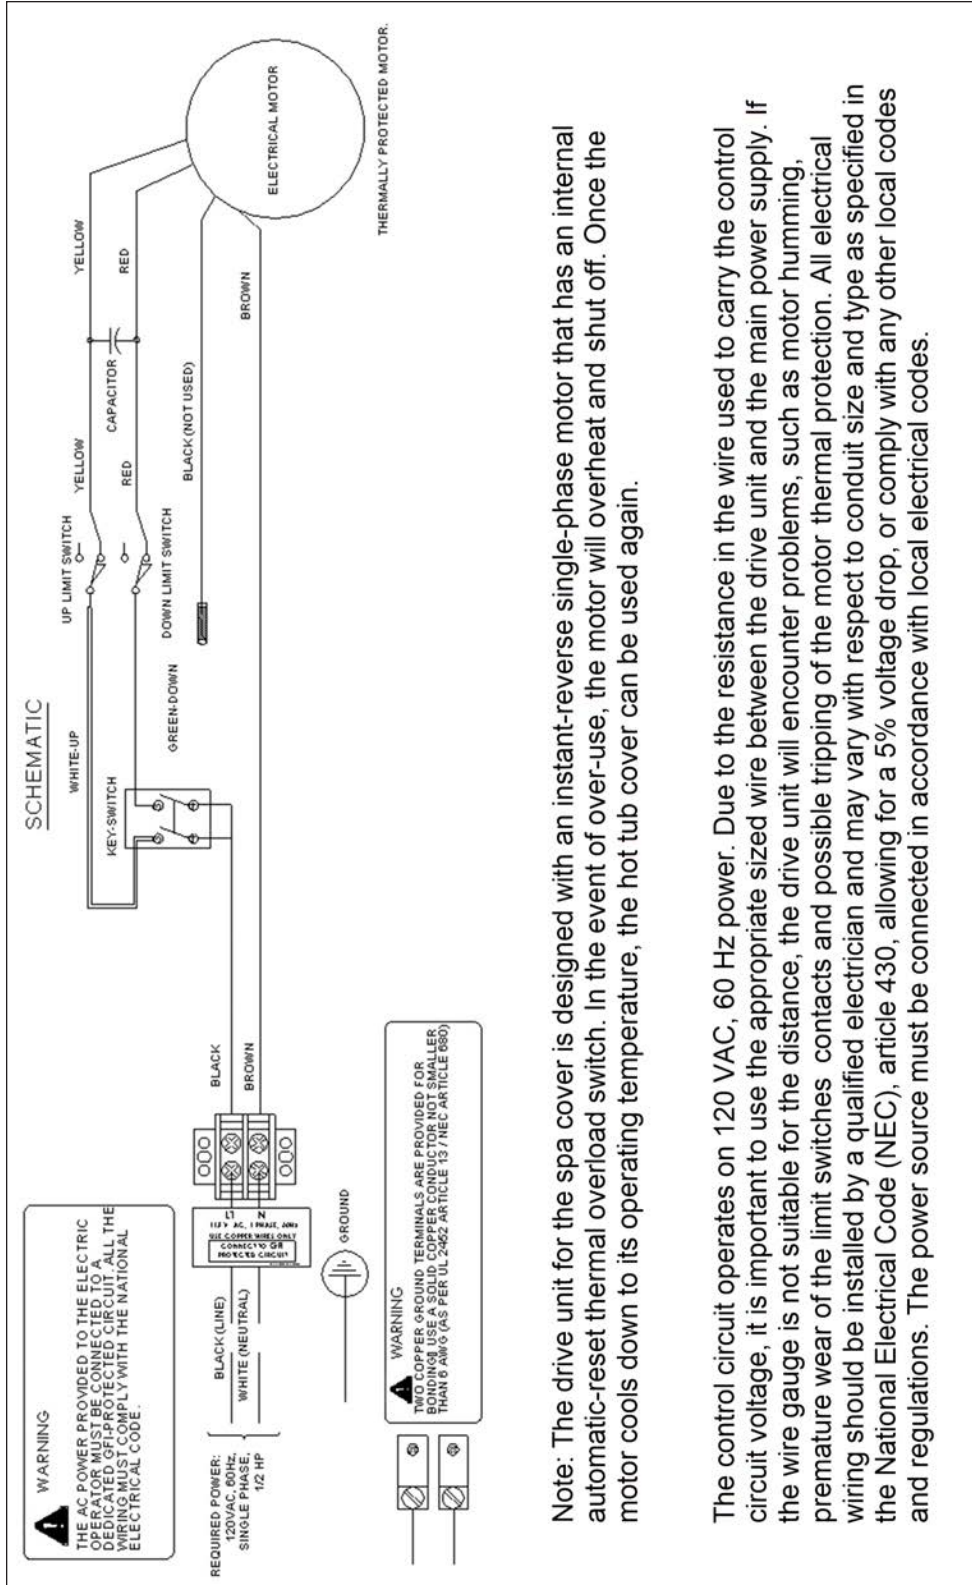

FIGURE 86: USE THE KEY INSIDE THE SLOT
2. Use the COVANA key inside the slot located in the white center part of the handle, see Figure 86.